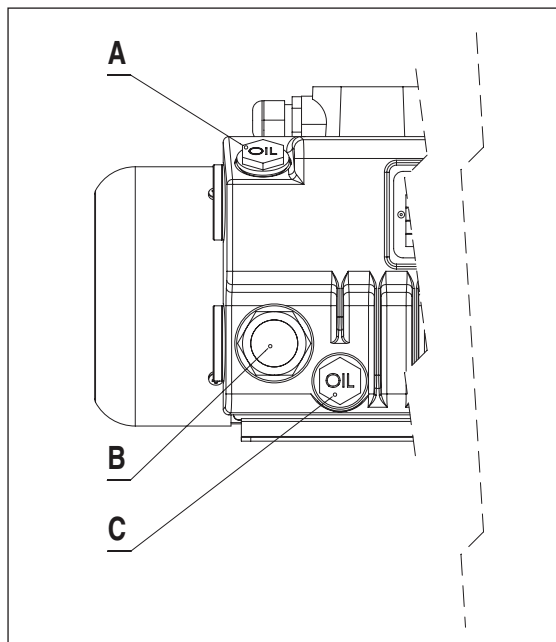

Fig.4
Eseguire il primo riempimento attraverso il tappo (A) sino alla metà dell'indicatore di livello (B) e richiudere il tappo (A) (Fig.4).
Carry out the first filling up through the plug (A) up to the half of the sight glass (B) and close the plug (A) (Fig.4).
Please refer to figure 4. Unscrew the oil filling plug (A) and the discharge plug (C) only after having placed below the pump tank a suitable container (proper size and shape) for collecting the total quantity of oil. Once the oil in tank has completely been discharged, re-assemble both the plugs ("A" and "C") and let the pump run under vacuum for about one minute, so that the lubricating/cooling line get emptied and any oil residual keeps inside the pump. Then remove the plugs and discharge the rest of oil.